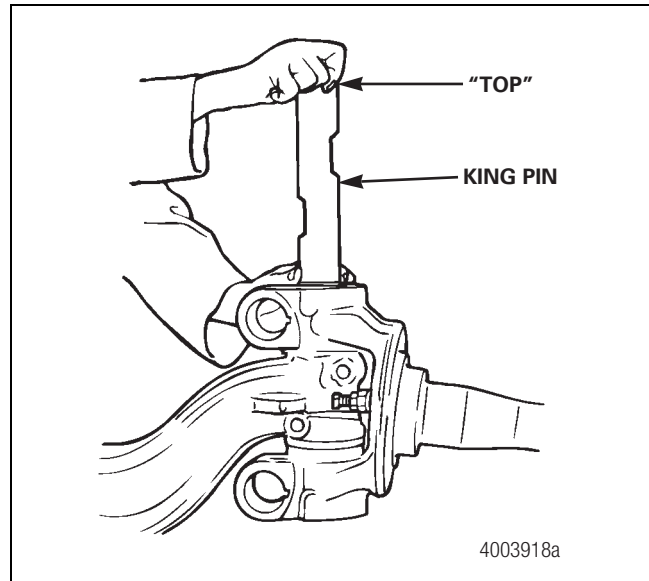

Figure 24
7. Install the king pin. Figure 24.